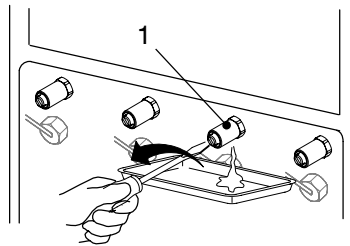

Fig. 3-10
2. Place a container under the air relief valves (1, Fig. 3-10) to be opened.